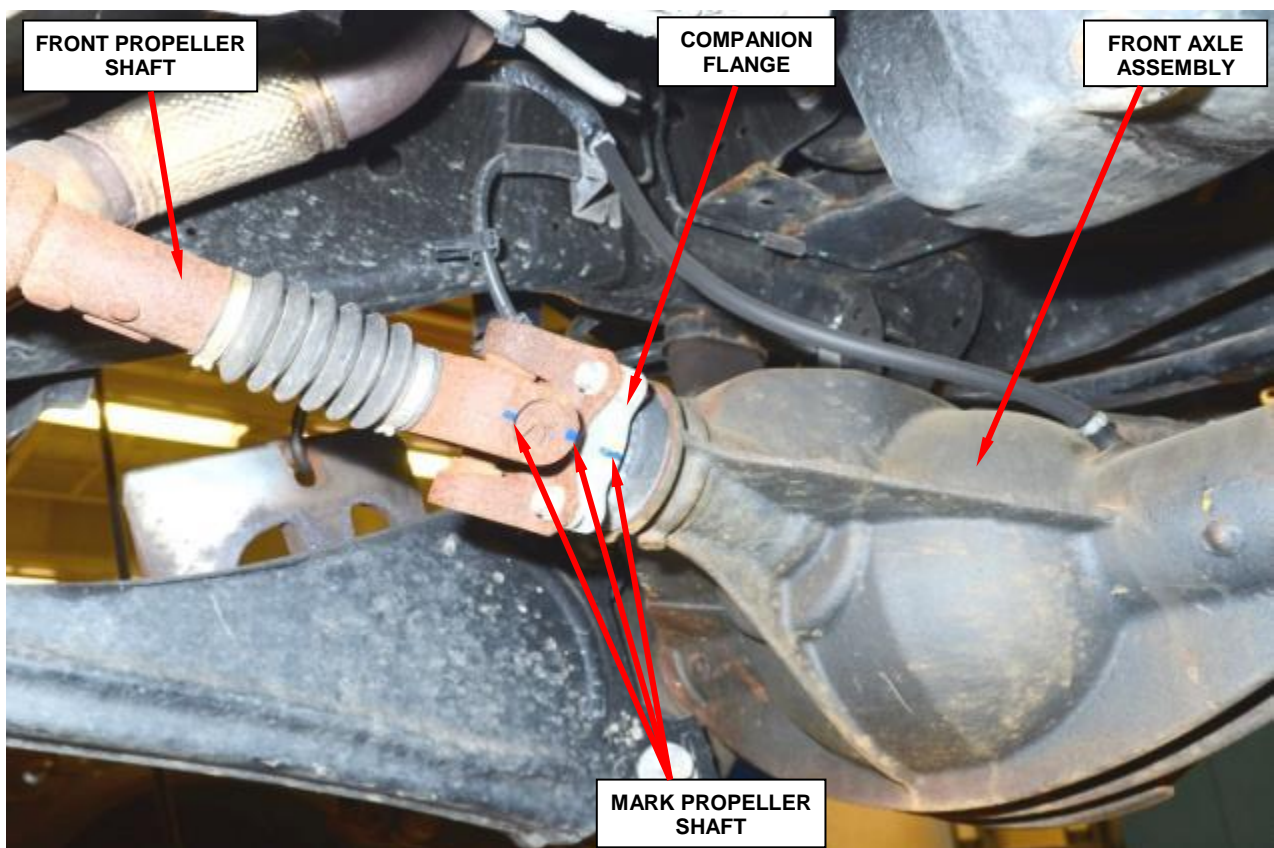

Figure 33 – Mark Front Propeller Shaft
11. **For vehicles with four wheel drive**, mark and then disconnect the front propeller shaft from the front axle companion flange (Figure 33).